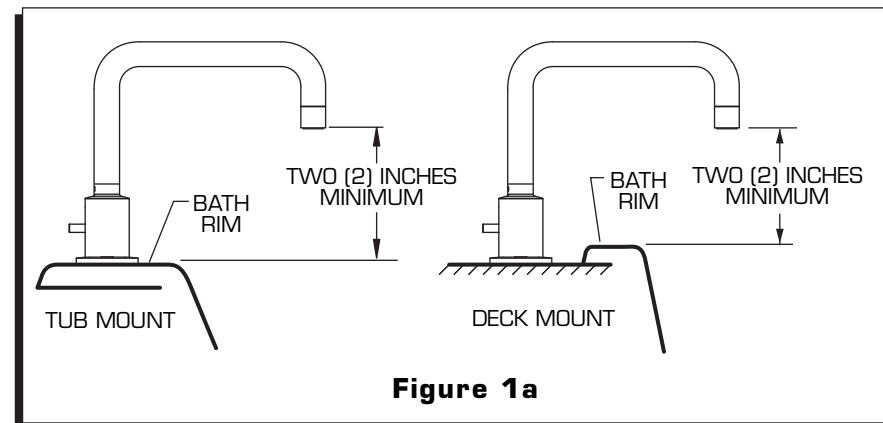

Figure 1a
Note: All deck mounted Roman tub sets must be installed with the tub spout outlet at least two (2) inches above the flood level rim of the tub. See Figure 1a.